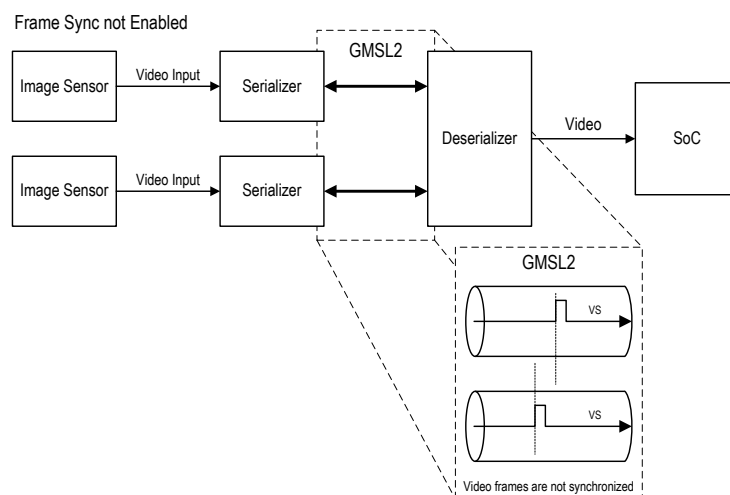
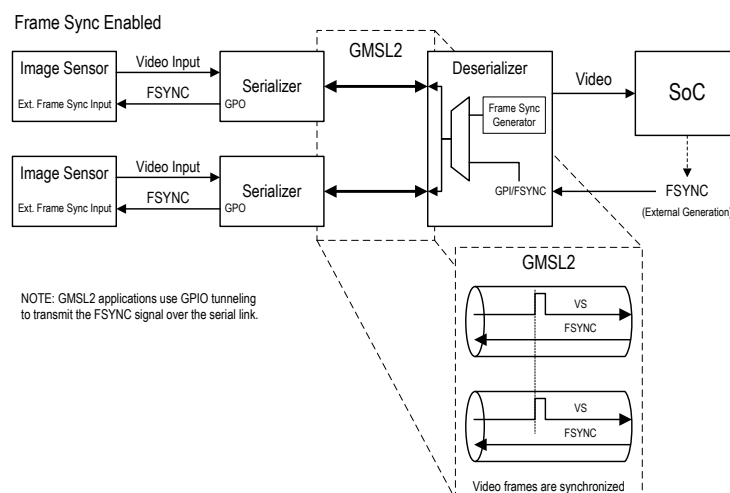

Figure 37. VS Signal Path (Frame Sync not Enabled)
Figure 38. VS Signal Path (Frame Sync Enabled)
Video frame synchronization occurs by synchronizing the vertical sync (VS) signals of the various video streams at the image sensors (Figure 37 and Figure 38). This initial synchronization prepares the video streams for processing by the SoC when output from the serial link system.